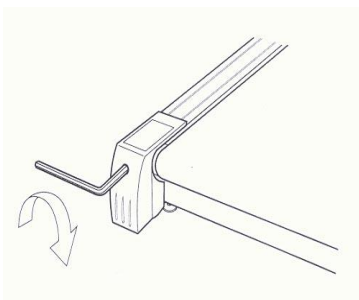

Figure 1
- **Running belt has shifted to the left side. (Figure 1 - Adjusting the belt to right side)**